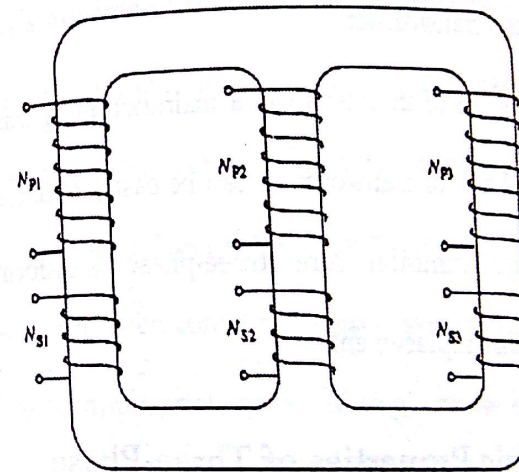

Fig. 4.2. A three-phase transformer in a common core.
2. By constructing a three-phase transformer on a common magnetic structure [shown in Fig. 4.2].